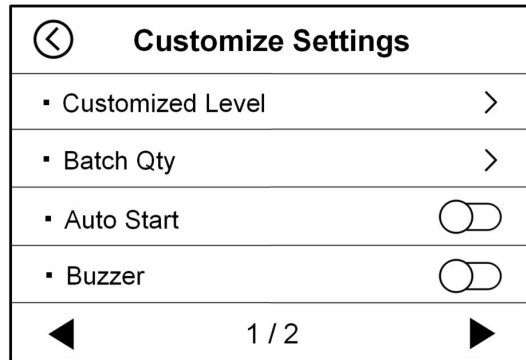
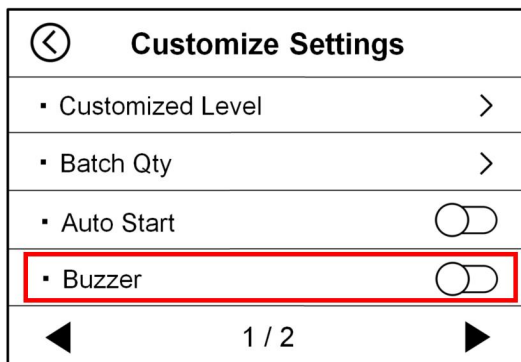
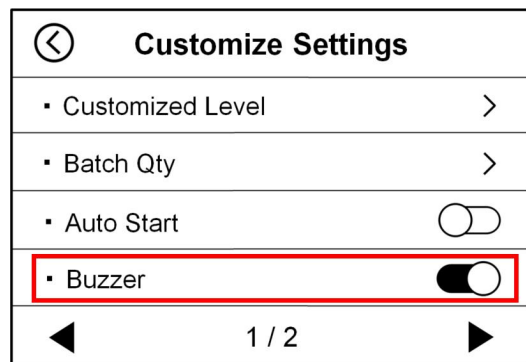

Figure 40
Figure 56
Figure 57
2) In the interface of Figure 40, tap the switch button at the back of “**Buzzer**” to turn on and off the buzzer. Figure 56 shows the off state of the buzzer, and Figure 57 shows the on state of the buzzer.